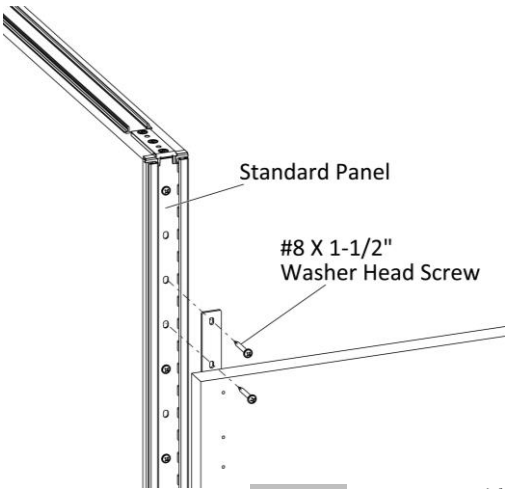

Figure 2
3. Position the standard panel and the gallery panel to create a 90-degree connection, (Figure 2).